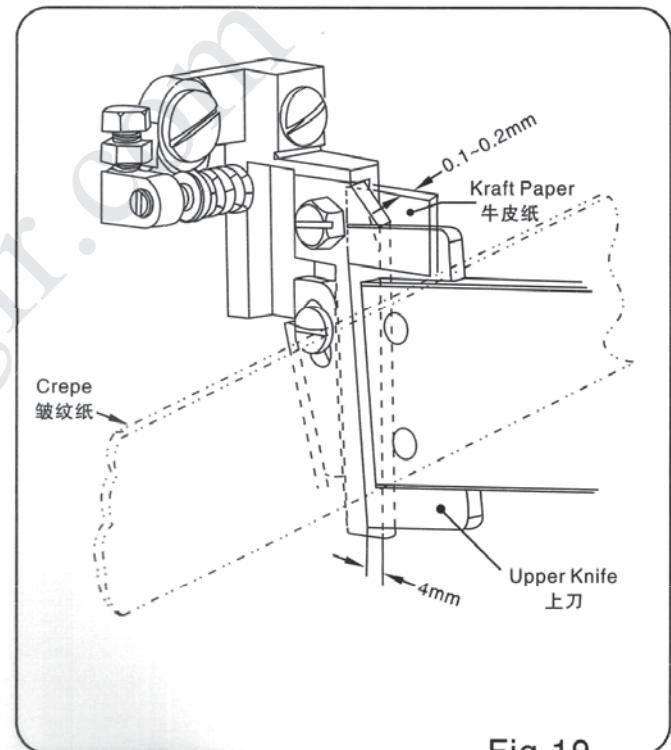

Fig.19
- a. Move the upper blade down to make it closed to the lower blade, fit clearance of the blade back is 0.1~0.2 MM(Fig.19), between upper blade and lower blade should be able to inesert or pull out a krafte paper smoothly.
- c. After the adjustment by steps a)、b), cut a crepe tape or thaead for test. If the front end of the cutter cuts but the rear end does not, there is a gap on the rear side. In this case, loosen the nut b and loosen the screw ③ by 1/8 turn, and cut the thread again for test. If it still does not cut, loosen the screw ③ by another 1/8 turn and reneat this adjustment and test cut until the thread can be cut, and then retighten the nut ④ and screw ⑤. If the rear end of cutter cuts but the front end does not cut, the adjustment by step a) is insufficient. Then make readjustment of the rear side so than the gap between both the blades becomes 0.1 to 0.2mm. Here, adjust the upper and lower blades so than they ate in contact with each other on the front side. If the lower blade tends to turn away without cutting, increase the pressure of the spring by turning the screw ③ clockwise.(Fig.19)
- d. Adjust the overlapped depth of the upper and lower blades by changing the length of air cylinder rod end so that the distance between the upper face of the lower blade and the rear side of the upper blade becomes 4mm,as shown in(Fig.19).